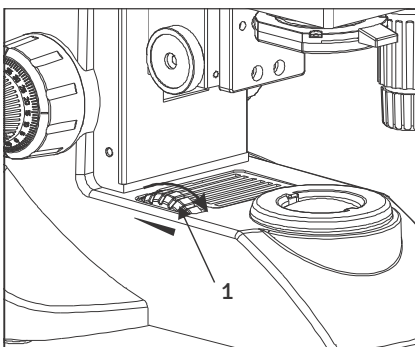

Fig. 16
2. Rotating the light intensity adjustment knob (Fig. 16) in the direction of the arrow increases brightness and rotating knob in the opposite direction decreases brightness. The intensity bar next the knob indicates the direction of intensity level.